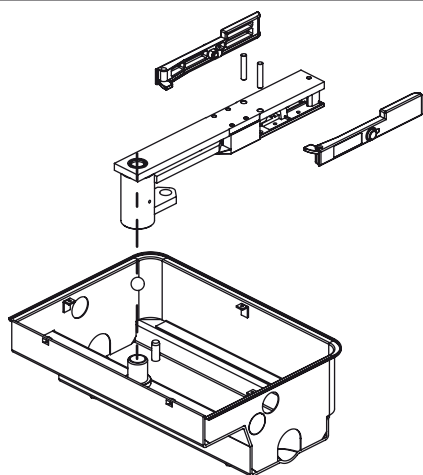

Fig. 8
- Assemble the release levers on the support bracket, and fit the latter on the pivot in the foundation box, also inserting the ball supplied (Fig. 8).